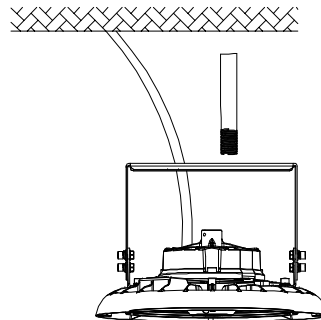

Figure9
2. Insert 1/2" NPT stem into the bracket hole(Figure9)